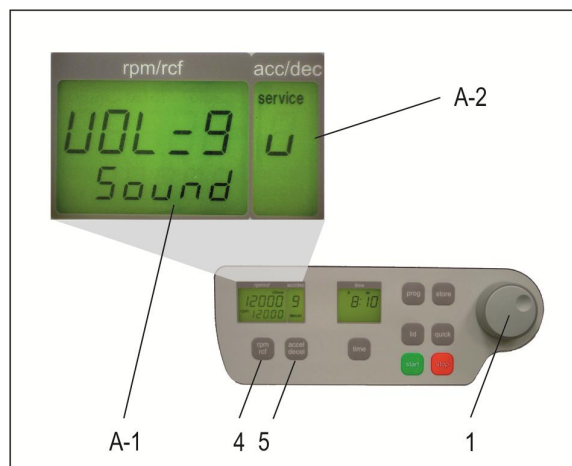

Figure 5
Proceed as described under point 1.8.1 to enter this program mode and then press the key „accel/decel“ (5). In the display „accel/decel“ (A-2) flashes the word „service“. Now select the letter „U“ with the adjusting knob (1). As a result appear in the display „rpm/rcf“ (A-1) the words „Vol=0-9/Sound“. After pressing the key „rpm/rcf“ (4), you can adjust the desired volume between 0 (low) and 9 (loud) with the adjusting knob (1) (see figure 5).